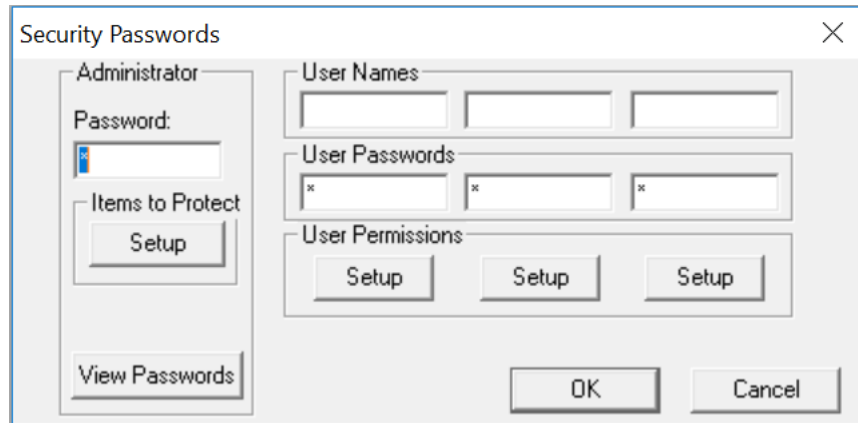

Figure 4.4 -Security Passwords Dialog
8. The Administrator password is always authorized for all protected features. If desired, one or more of the user passwords can also be authorized for CsCAN over Ethernet communication. To do this, refer to Figure 4.4 and click one of the **User Permissions Setup** buttons to open that user's **Security Settings** dialog, which will be like Figure 4.5. Then check the **CsCAN TCP (Ethernet)** checkbox and click **OK**.